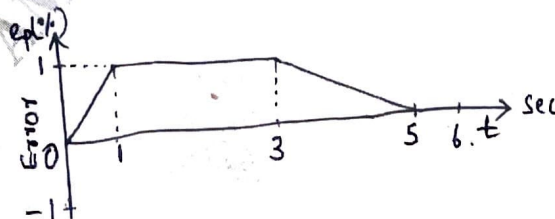

Fig Q4
- 4 Draw the output in the three mode controller, when the error is changing as shown in Fig Q4. When  $K_p = 5$ ,  $K_I = 0.7/\text{s}$ ,  $K_d = 0.5\text{s}$ ,  $P_o = 20\%$